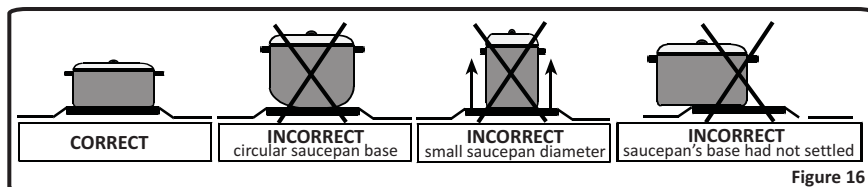

Figure 16
- Lift up the pan supports, caps and crowns of hob burners(Figure 16).